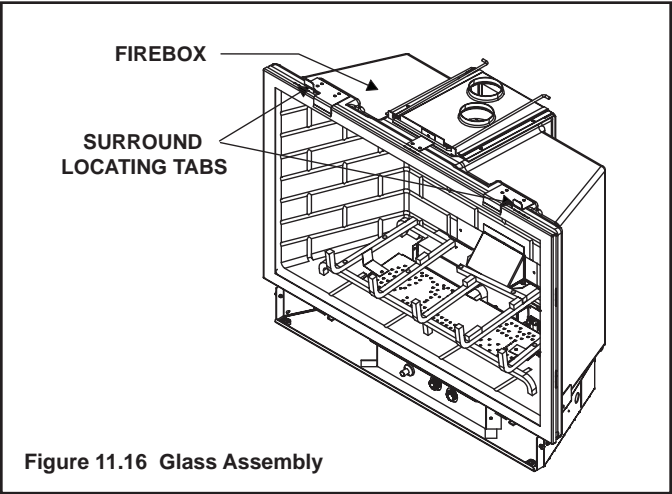

Figure 11.16 Glass Assembly
- Remove glass assembly after both latches have been released (see Figure 11.16).